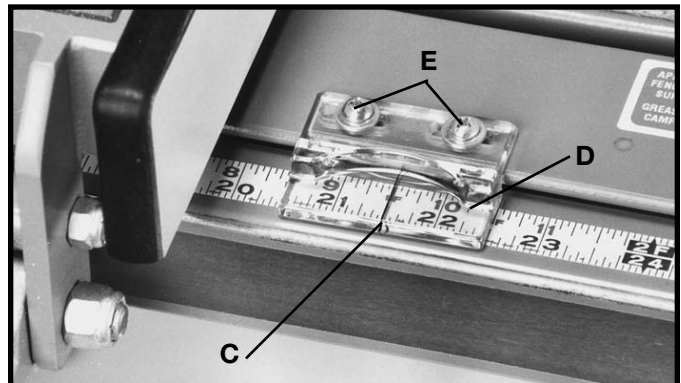

Fig. 114
3. The distance the fence is positioned away from the blade is indicated by the witness line (C) Fig. 114, located on the cursor (D). If it is necessary to adjust the cursor (D), make a test cut with the fence locked in position. Measure the width of the finished cut and adjust the cursor (D) by loosening the two screws (E), adjusting the cursor (D) until the witness line (C) is aligned with the same marking on the scale as the finished cut. Then tighten the two screws (E).